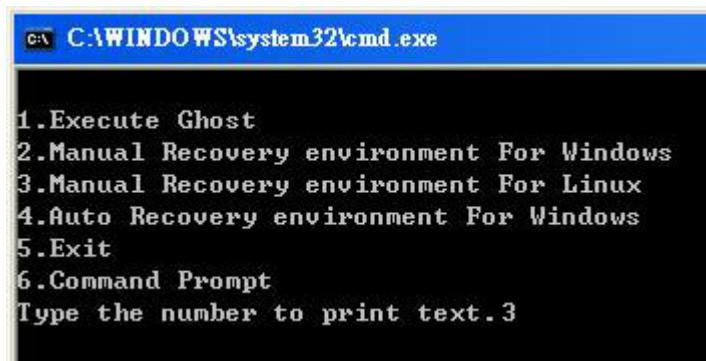

Figure A-32: System Configuration for Linux
Step 4: **Build-up recovery partition.** Press any key to boot from the recovery CD. It will take a while to launch the recovery tool. Please be patient. When the recovery tool setup menu appears, type <3> and press <Enter> (**Figure A-32**). The Symantec Ghost window appears and starts configuring the system to build-up a recovery partition. After completing the system configuration, press any key to reboot the system. Eject the recovery CD.